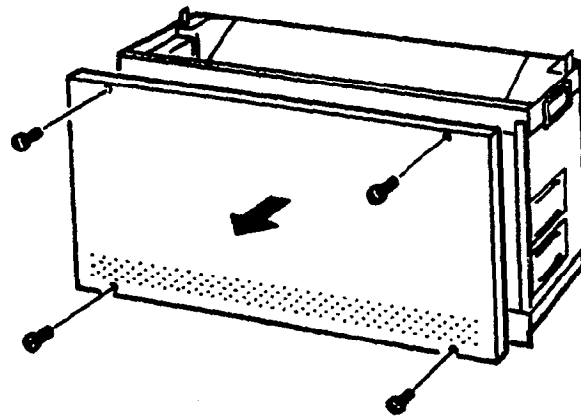

Figure 3-51 Removing the Level II Advanced Expansion KSU Front Panel
2. Remove the front panel from the Level II Advanced Expansion KSU. Refer to Figure 3-51 - Removing the Level II Advanced Expansion KSU Front Panel.